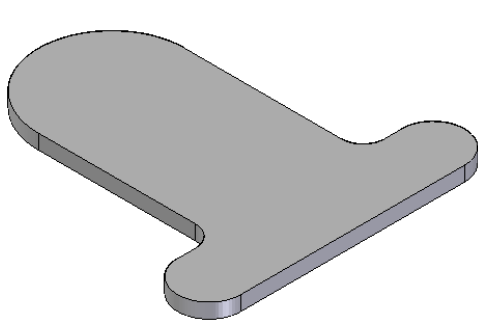

Figure 8-57 Base feature of the model
- a. Start a new part file and create the base feature on the top plane, refer to Figure 8-57.
1. Start Solid Edge in the **Part** environment and then select the top plane as the sketching plane for the base feature, as shown in Figure 8-57.